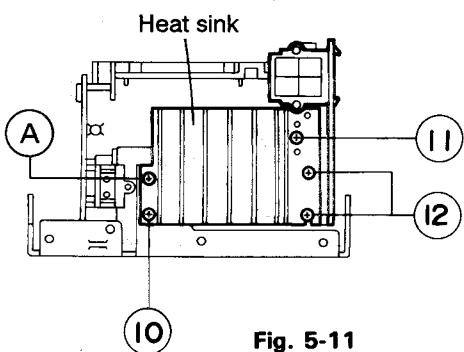

Fig. 5-11
5. Remove the screw  $\textcircled{A}$  securing the heat sink to remove the ground wire from the LCD/System microcomputer board assembly (Fig. 5-11).
(Fig. 5-11).